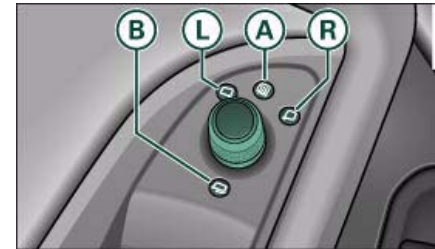

Fig. 68 Detail of the armrest: Adjuster knob
- Turn the adjuster knob to position **L** (left exterior mirror) or position **R** (right exterior mirror) ⇒ fig. 68.
When reverse gear is engaged, the mirror surface tilts slightly downwards, provided the mirror control is switched to the exterior mirror on the passenger's side (knob in position **R**) ⇒ *page 66*, fig. 68). This provides a better view of the kerb when parking.